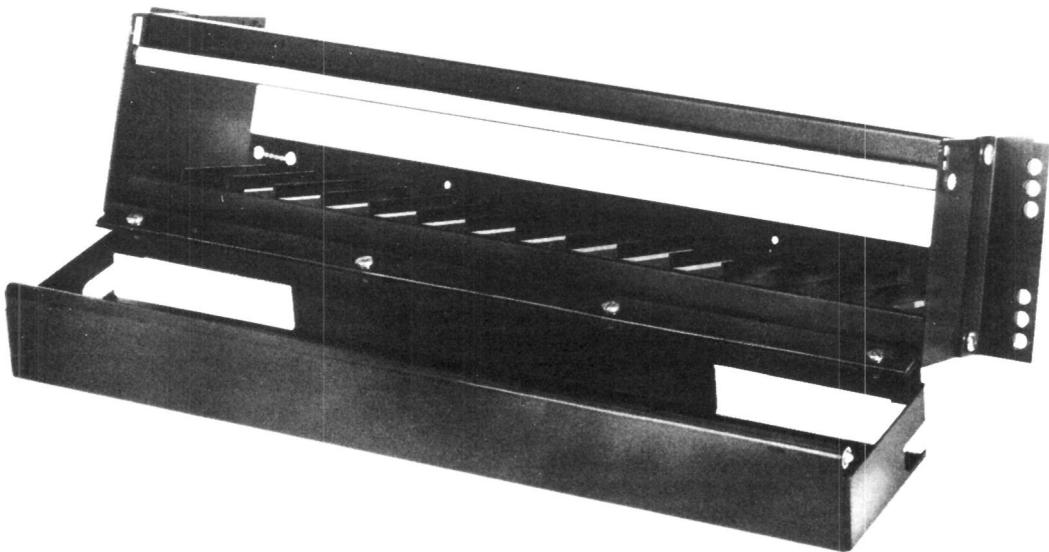

Fig. 15—103A Apparatus Mounting
3.07 Where several 97A-type and 97B connecting blocks are to be installed in the same location, a 103A apparatus mounting may be used (Fig. 15).